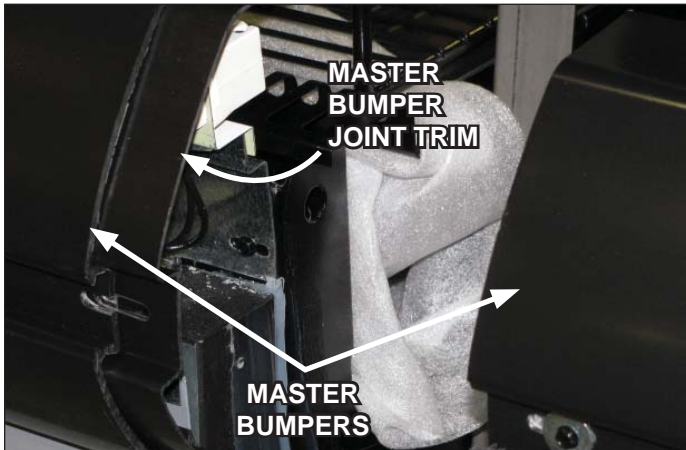

Fig. 3 Master bumpers and joint trim
1. To align the master bumpers, slide master bumper joint trim in between adjoining master bumpers. (Fig. 3). Slide the master bumpers left or right to close the seams as required, working outwards from the center of the line-up to the ends.